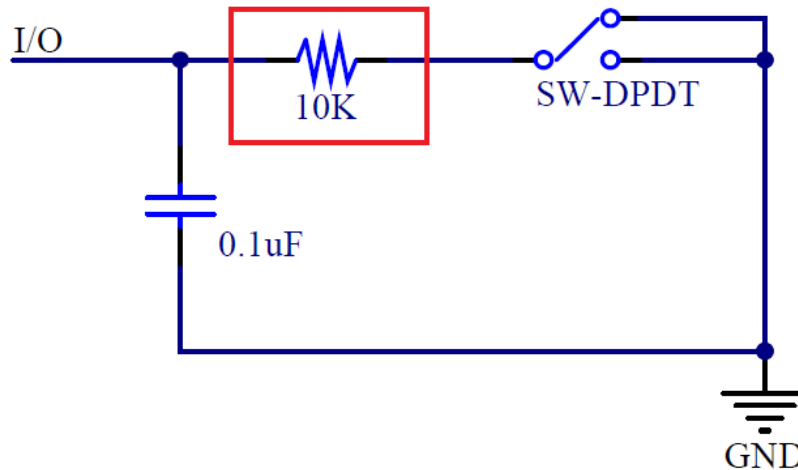

Figure 5: I/O and the resistor series connection diagram
4. The resistor series connection between the switch and the capacitor (Figure 5), the higher resistor